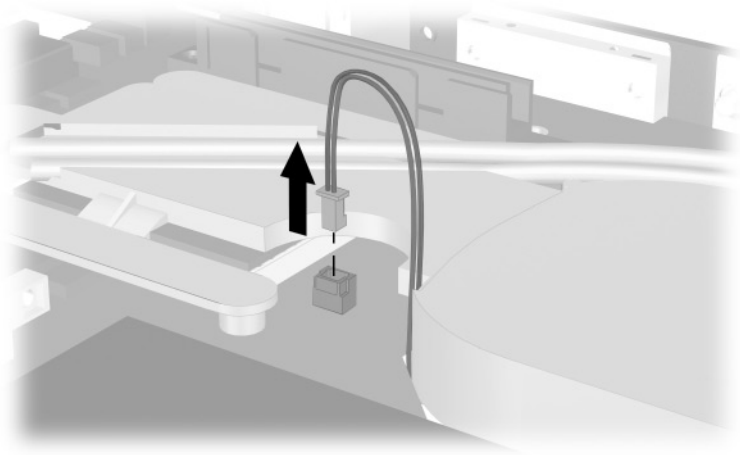

Figure 5-28. Disconnecting the Fan Cable
3. Disconnect the fan cable from the system board (Figure 5-28).